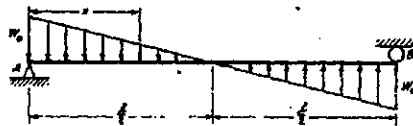

Fig. 8(a)
- 8 (a) A simply supported beam carries a linearly varying transverse load as shown in Fig. 8(a). The intensity of load at each end of the beam is  $w_0$ . Develop general expressions for  $V_x$  and  $M_x$  at a cross-section distance  $x$  from support A. At what value of  $x$  will the bending moment be a maximum? What is the shear force at the middle cross-section of the beam?